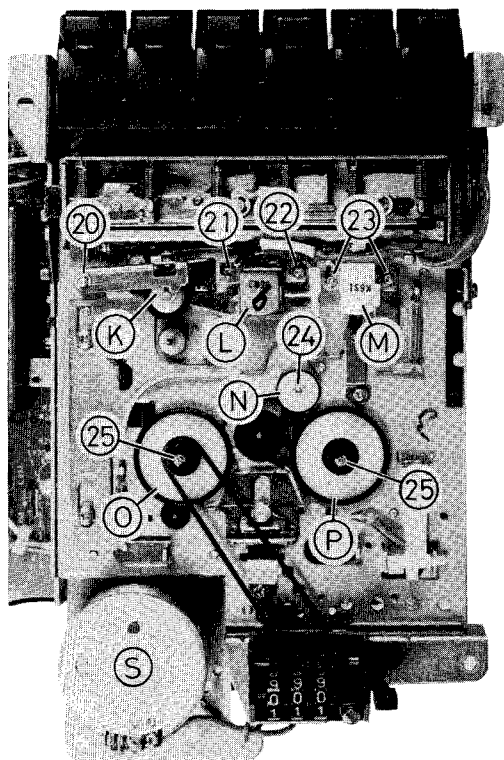

Fig. 8
Pinch Roller Ass'y (K) (Refer to Fig.8)
Play/record Head (L) (Refer to Fig. 8)
Erase Head (M) (Refer to Fig. 8)
Rev. and Idler (N) (Refer to Fig. 8)
Take-up (O) and Supply (P) Reel Disk (Refer to Fig.8)